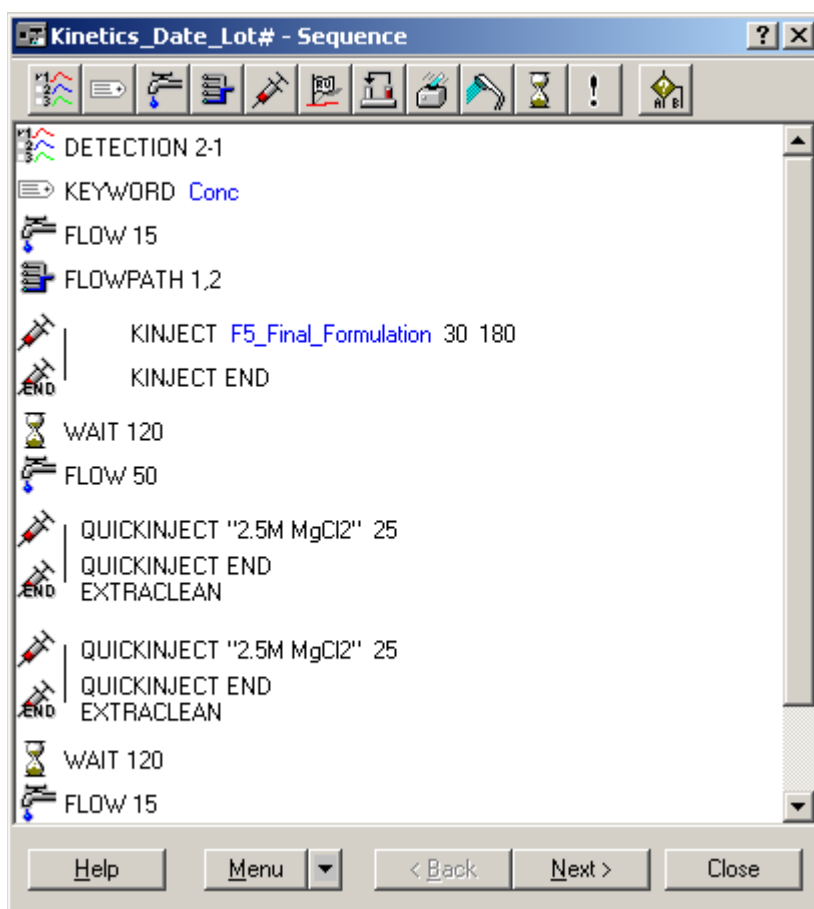

Figure 5.2
- 5.4 Sequence window shown figure 5.2 will open.
The parameters that need to be changed are 'DETECTION' (Step 1) and FLOWPATH (Step 4). In the example shown in fig 5.2, 'DETECTION' is selected as 2-1 and 'FLOWPATH' as 1, 2. (Flow cells 1 and 2 in which 1 is serving as the control).